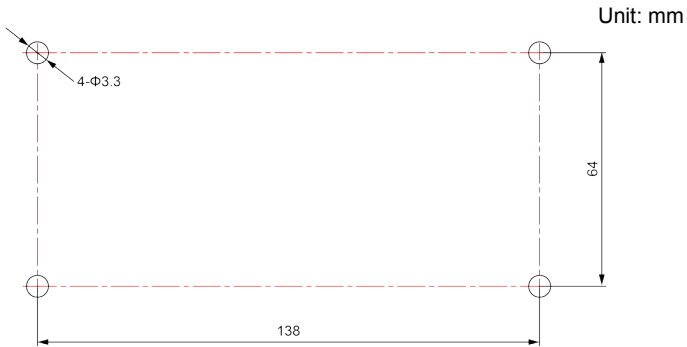

Fig. 3.9 Installation Holes of the Electric Box Rear Cover
- 2) In case that the centralized controller is installed inside the control cabinet, dig 4 installation holes on the surface of the control cabinet according to fig.3.9.
- (4) In step (1), pull out the power core and communication cord, and then lead them separately from the wire orifice of the electric box rear cover. Never lead the cords through a same orifice.
- (5) In step (2), locate the electric box rear cover to the installation holes of the wall with screw $\text{ST}4.2 \times 16 \text{ FA}$.
- (6) In step (6), pull out the wire connecting the touch screen and controller's rear cover. Put the touch screen on a safe place.
- (7) In step (7), connect the communication cords to G1, G2 terminals, and connect the neutral wire and live wire to the N, L terminal; connect the ground wire to position  on the electric box rear cover. Secure it with screw $\text{M}4 \times 12$.
- (8) In step (8), locate the controller's rear cover onto the electric box rear cover with screw $\text{ST}4.2 \times 9.5 \text{ MC}$.
- (9) In step (9), connect the wire between touch screen and controller's rear cover.